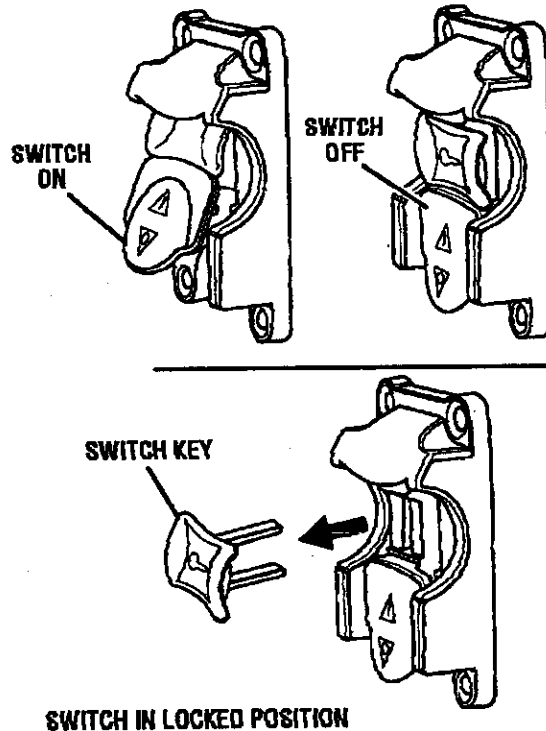

Fig. 41
- NOTE:** To prevent unauthorized use, remove the switch key as shown in figure 41.